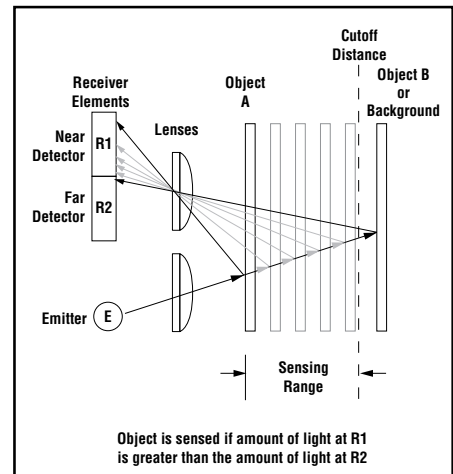

Figure 1. Fixed-field concept
The T30FF compares the reflections of its emitted light beam (E) from an object back to the sensor's two differently aimed detectors, R1 and R2 (see Figure 1). If the near detector (R1) light signal is stronger than the far detector (R2) light signal (see object A, closer than the cutoff distance), the sensor responds to the object. If the far detector (R2) light signal is stronger than the near detector (R1) light signal (see object B, object beyond the cutoff distance), the sensor ignores the object.